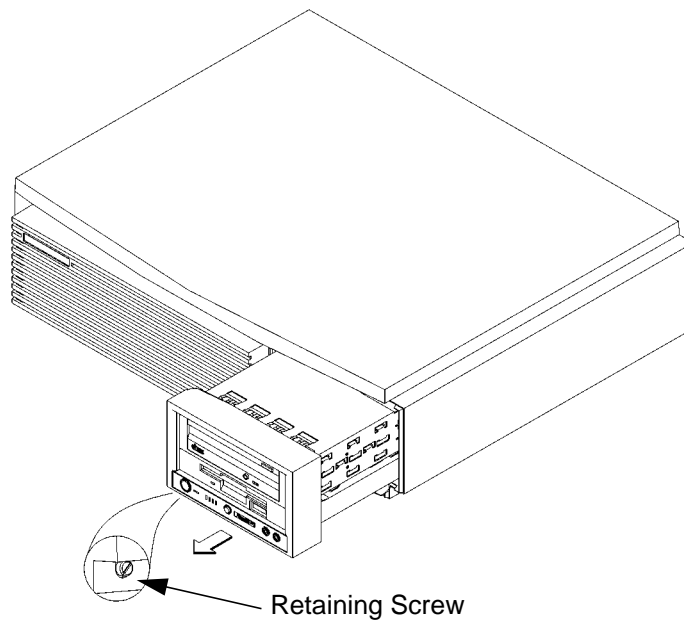

Figure 30
- 1 Remove the storage tray retaining screw, as shown in Figure 30.
- 3 Place your fingertips in the finger groove on the bottom of the storage tray bezel and pull straight, as shown in Figure 30.